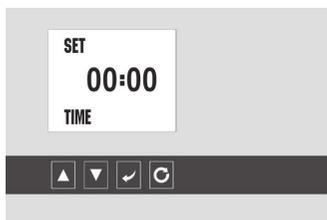

Fig 1
1. Setting the time of day (see Fig. 1)